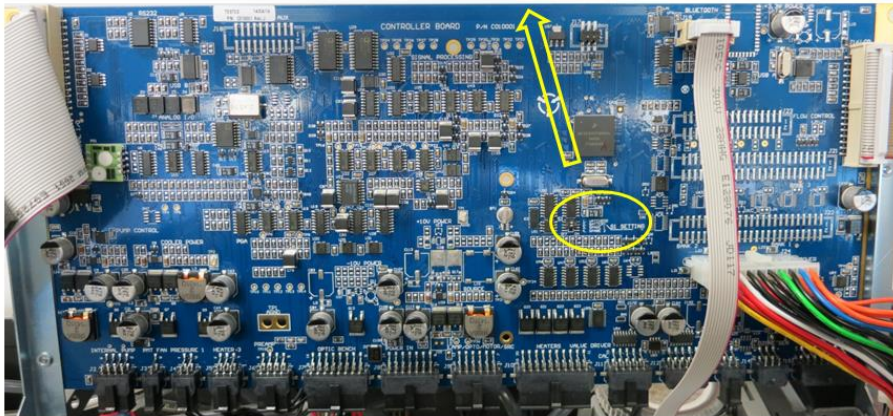

Figure 9 – Switching the Battery On/Off
2. Check that the battery is turned on at the main controller PCA (refer to Figure 9).
3. If storing over a long period (six months) turn the battery off by switching the DIP switch (S1) on the main controller PCA (refer to Figure 9).